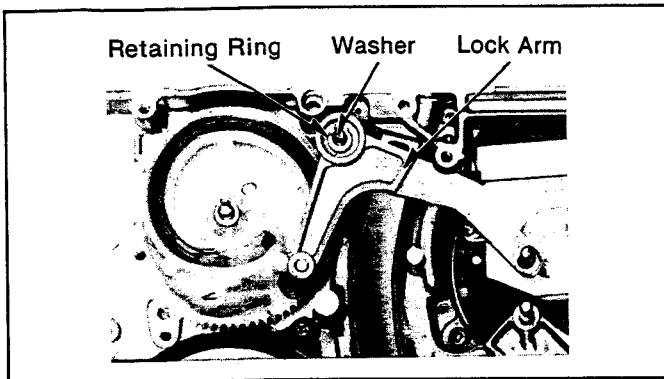

Fig. 39 Assembly and Adjustment of Gears and Rod-(3)
3. Install the lock arm as shown in Fig. 39. Then install the retaining ring and the washer.